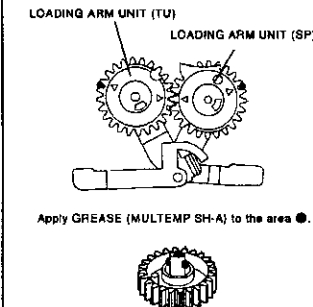

Fig. 2-33-2
1 Apply GREASE (MULTEMP SH-A) [859D055080] to the area specified in Fig. 2-33-2 on the new LOADING ARM UNIT (SP).
3 Apply GREASE (MULTEMP SH-A) [859D055080] to the area specified in Fig. 2-33-2 on the new LOADING ARM UNIT (TU).